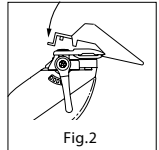

Fig.2
- Attach combs by holding them teeth up then snapping onto the bottom of the clipper blade (figure 2).